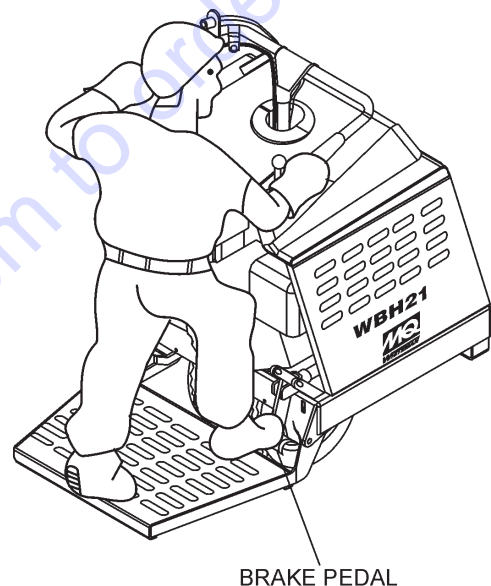

**Figure 19. Direction Lever**
4. Place the power buggy's direction lever (Figure 19) in the forward direction.
1. With the engine running and parking brake released, place the direction lever (Figure 19) in the forward direction.